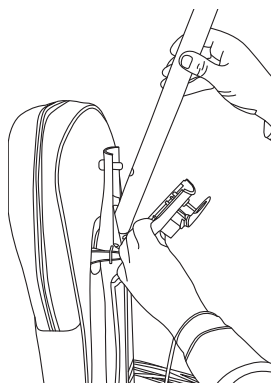

Fig. 2
2. Place handle onto the handle tube, aligning holes with pegs (Fig. 2).